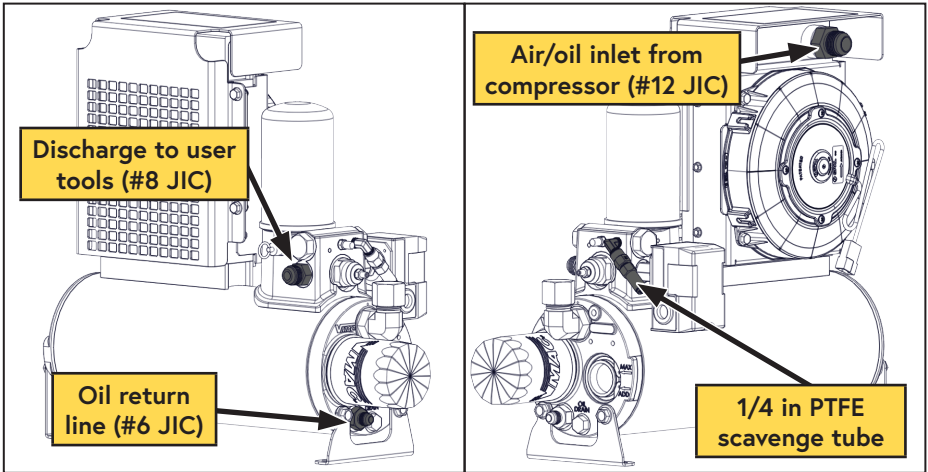

Figure 26 — WHASP Tank connections
- Connect the straight fitting on the 3/4 in hose to the #12 JIC fitting (air/oil inlet) on the cooler above the fan (Figure 26).
- Connect the 90° fitting on the 3/8 in hose to the #6 JIC fitting (oil return fitting) beneath the oil filter on the tank (Figure 26).
- Connect the 1/4 in PTFE tube to the 1/4 in push-to-connect (oil scavenge) fitting near the coalescing filter (Figure 26).